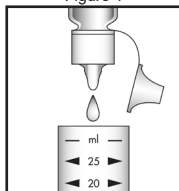

Figure 2
3. Add **2 drops** of S-1500 stabilizer solution (fig. 2). Stir to mix the contents of the cup.